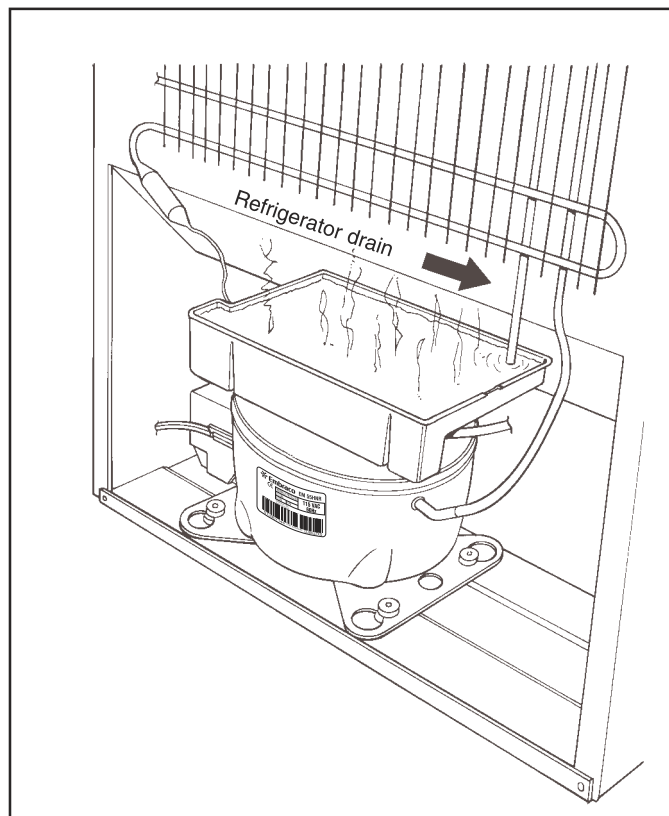

Figure 6
- 6) Assembly in the correct position guarantees ideal heat transference to the tray and maximum water volume storage. See figure 6.